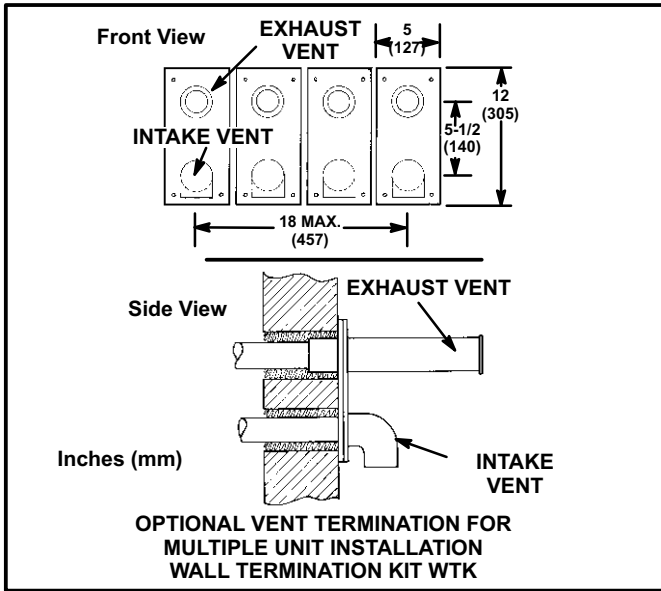

FIGURE 43
- 14- Based on the recommendation of the manufacturer, a multiple furnace installation may use a group of up to four termination kits WTK assembled together horizontally, as shown in figure 43.